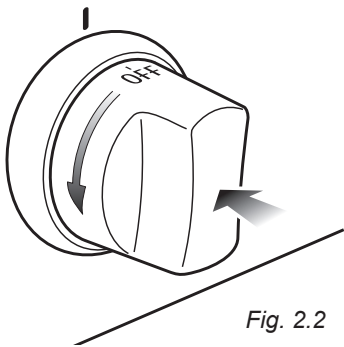

Fig. 2.2
1. Push and turn the knob in an anti-clockwise direction up to the **★ HI** position (maximum rate), push in and hold the knob until the flame has been lit (fig. 2.2).
2. Push and turn the knob in an anti-clockwise direction up to the **★ HI** position (maximum rate), push in and hold the knob until the flame has been lit (fig. 2.2).